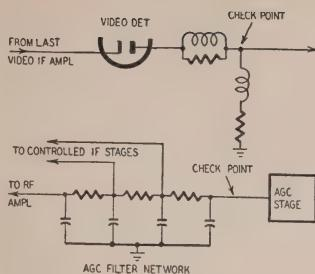

Fig. 2—Video detector and age voltage check points.
1. Dc voltage checks at the video detector load and age line Dc voltage checks should be made at the video detector load and agc line (Fig. 2), first with the set tuned to an active channel, then with the set turned to an inactive channel.